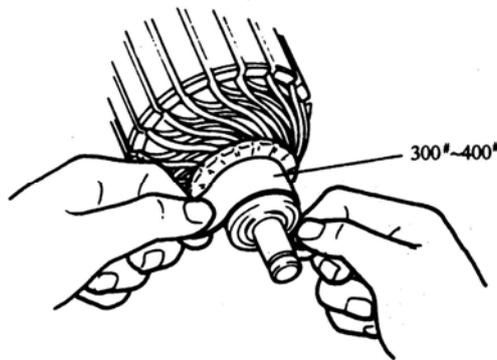

Fig.9-18
**1) INSPECT COMMUTATOR (Fig. 9-18)**